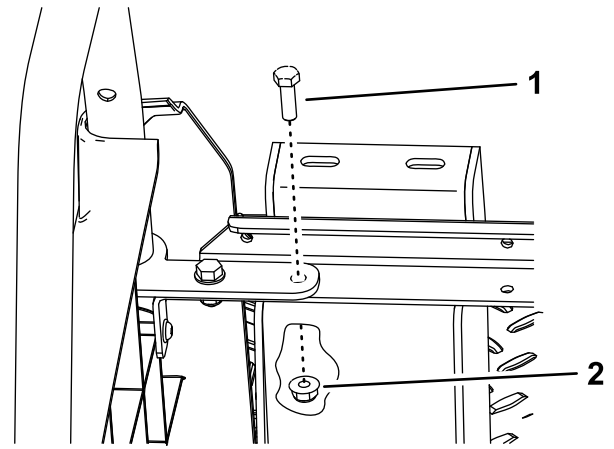

Figure 8
5. Secure the top of the bracket using a kit bolt (5/16 x 1 inch) and a nut (5/16 inch) you retained in step 3 of the previous procedure (Figure 8).
1. Route the wire harness behind the cab and under the seat, and secure the clip on the wire harness to the side panel (Figure 8).